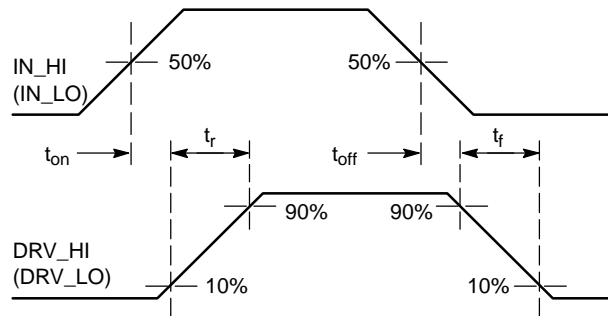

Figure 7. Propagation Delay and Rise / Fall Time Definition
- Timing diagram definition see: Figure 7, Figure 8 and Figure 9.